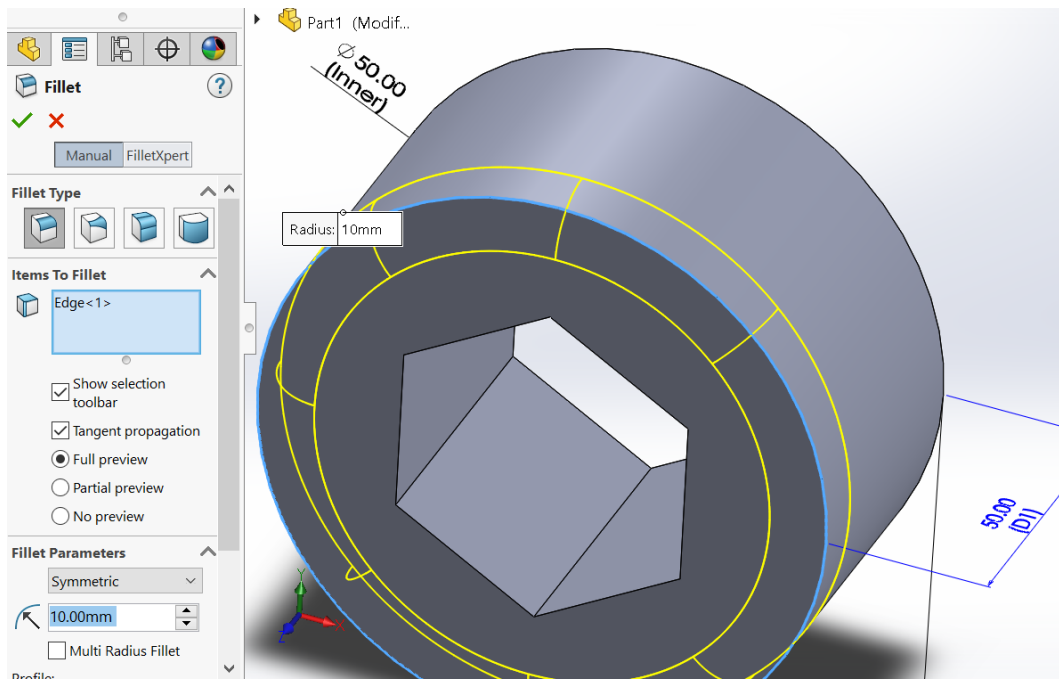

Figure 18 – Creating a rounding for a new configuration
1. Create a feature *Fillet* (Fig. 18).